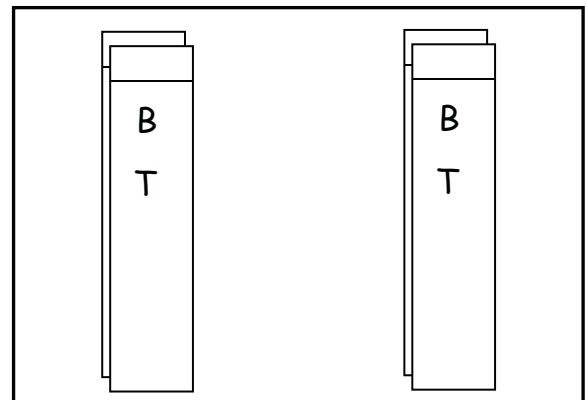

Figure 4
5. Repeat step 4 with the remaining piece of tape, so that you end up with 2 double strips of tape on the table (Figure 4).